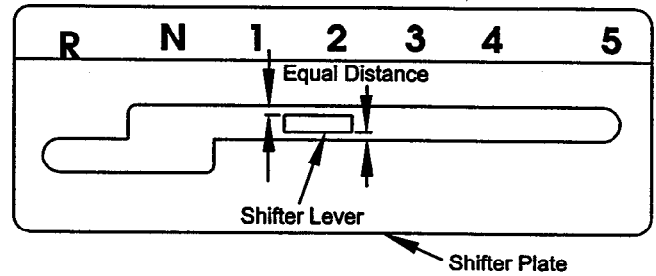

FIG. 6
- b) Shift lever to second gear and check alignment of lever in slot of shifter plate. Clearance between top of lever and the top of the slot should be about equal to the clearance between bottom of the lever and the bottom of the slot (See Figure 6). If it is not, remove lever and bend it slightly to adjust. **DO NOT** bend lever while it is attached to transmission. Reinstall lever and tighten hardware.